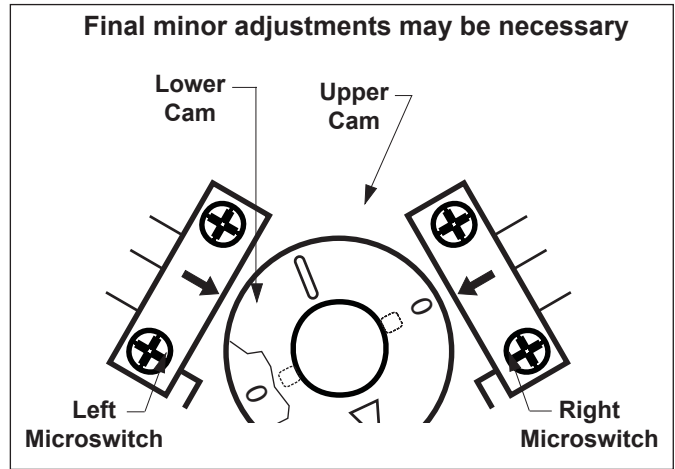

Figure 20. JVA Cams
2. Remove the four (4) Phillips head screws that secure the actuator lid and then remove the lid.
3. Rotate the actuator shaft so the arrow mark on the top cam aligns with the microswitch actuator (bottom cam arrow mark should also align with the bottom microswitch actuator, see Figure 20).